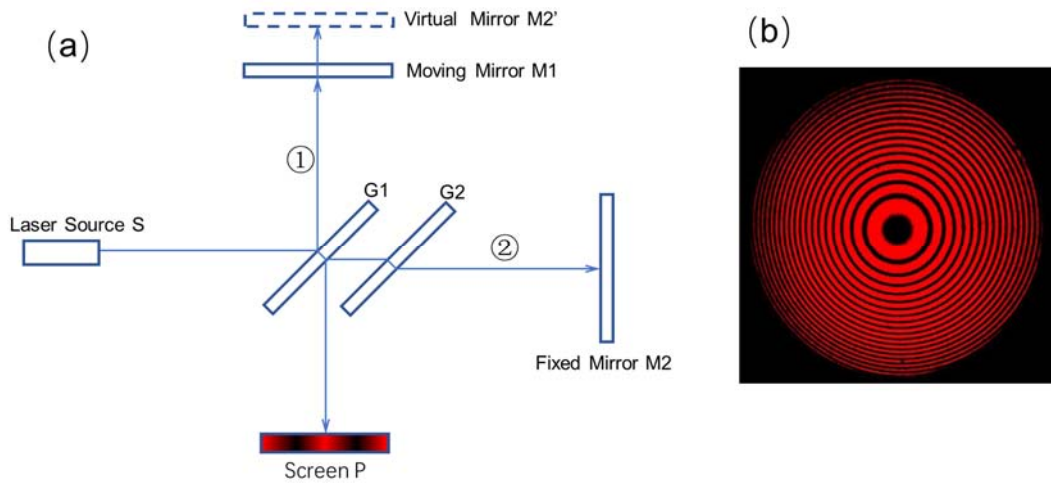

Figure 1: (a) Schematic diagram of the Michelson interferometer; (b) Circular fringe interference pattern
The Michelson interferometer is a device that produces interference between two beams of light. A diagram of the apparatus is shown in Figure 1. The basic operation of the interferometer is as follows. Light from a light source is split into two parts. One part of the light travels a different path length than the other. After traversing these different path lengths, the two parts of the light are brought together to interfere with each other. The interference pattern can be seen on a screen.
Figure 1(a) is a schematic diagram of the optical path of the Michelson interferometer. In the figure, M1 and M2 are two plane mirrors placed on two perpendicular paths where M2 is fixed. The position of M1 is controlled by a screw, which can move forward and backward. At the intersection of the two paths, there is a semi-reflective glass plate G1 at a 45° angle to the two axes. G1 is called a beam splitter that divides a beam of incident light into two beams with equal amplitude. G2 is a semi-reflective glass plate, placed in parallel with G1, and the thickness and refractive index are the same as G1. It compensates the optical path difference of light ① and ② due to the different times of passing through G1. It is also called compensation plate.
When M1 and M2' are parallel, (that is M1 and M2 are strictly perpendicular to each other), an annular equal-inclination interference fringe (Figure 1(b)) will be observed at the frosted glass screen at P. The optical path difference between the two beams of light reflected by M2 and M1 to P can be viewed as parallel light interference in between:
interference pattern should appear on the glass (Figure 1(b)). Fine tune screw 3 or M2 to locate the circular fringe interference pattern at the center of the glass, and fine tune the handwheel 1 to make it large enough for easy observation.